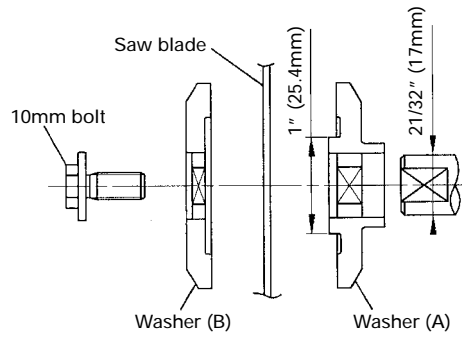

Fig. 44-d
(7) Press in the spindle lock and tighten the 10mm bolt by turning it to the left by standard accessories wrench (17mm box wrench) as indicated in Fig. 44-c.